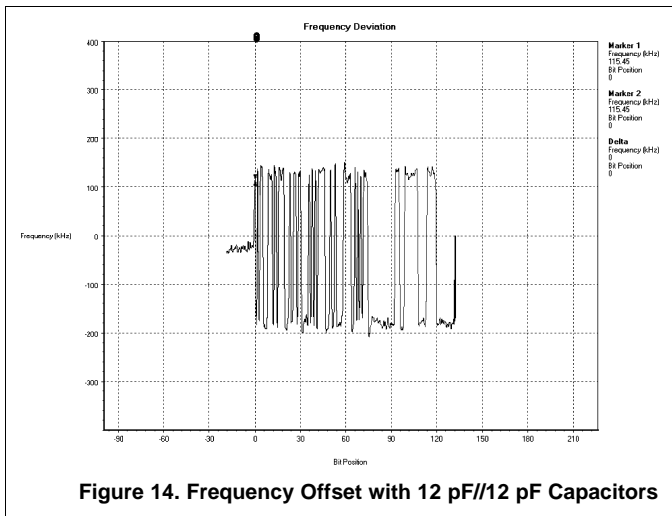
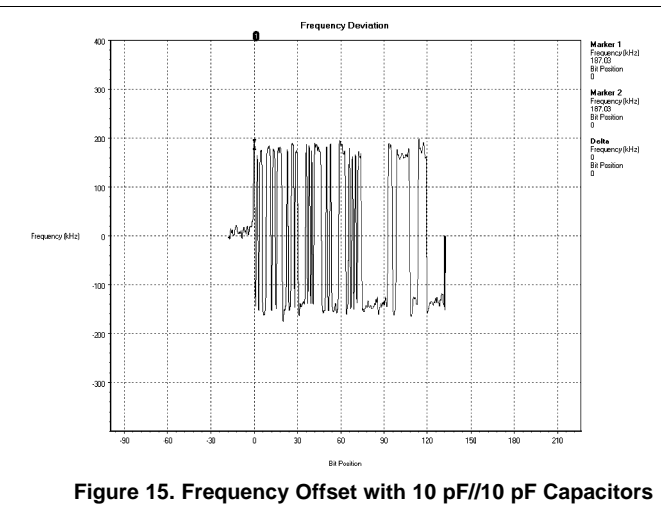

Figure 14. Frequency Offset with 12 pF//12 pF Capacitors
Figure 15. Frequency Offset with 10 pF//10 pF Capacitors
**TEW Crystal:** The LMX9830 has been tested with the TEW TAS-4025A crystal, reference Table 10 for specification. Because the internal capacitance of the crystal circuit is 8 pF and the load capacitance is 16 pF, 12 pF is a good starting point for both Ct1 and Ct2. The 2480-MHz RF frequency offset is then tested. Figure 14 shows the RF frequency offset test results.
Figure 14 shows the results are –20 kHz off the center frequency, which is –1 ppm. The pullability of the crystal is 2 ppm/pF, so the load capacitance must be decreased by about 1.0 pF. By changing Ct1 or Ct2 to 10 pF, the total load capacitance is decreased by 1.0 pF. Figure 15 shows the frequency offset test results. The frequency offset is now zero with Ct1 = 10 pF, Ct2 = 10 pF.